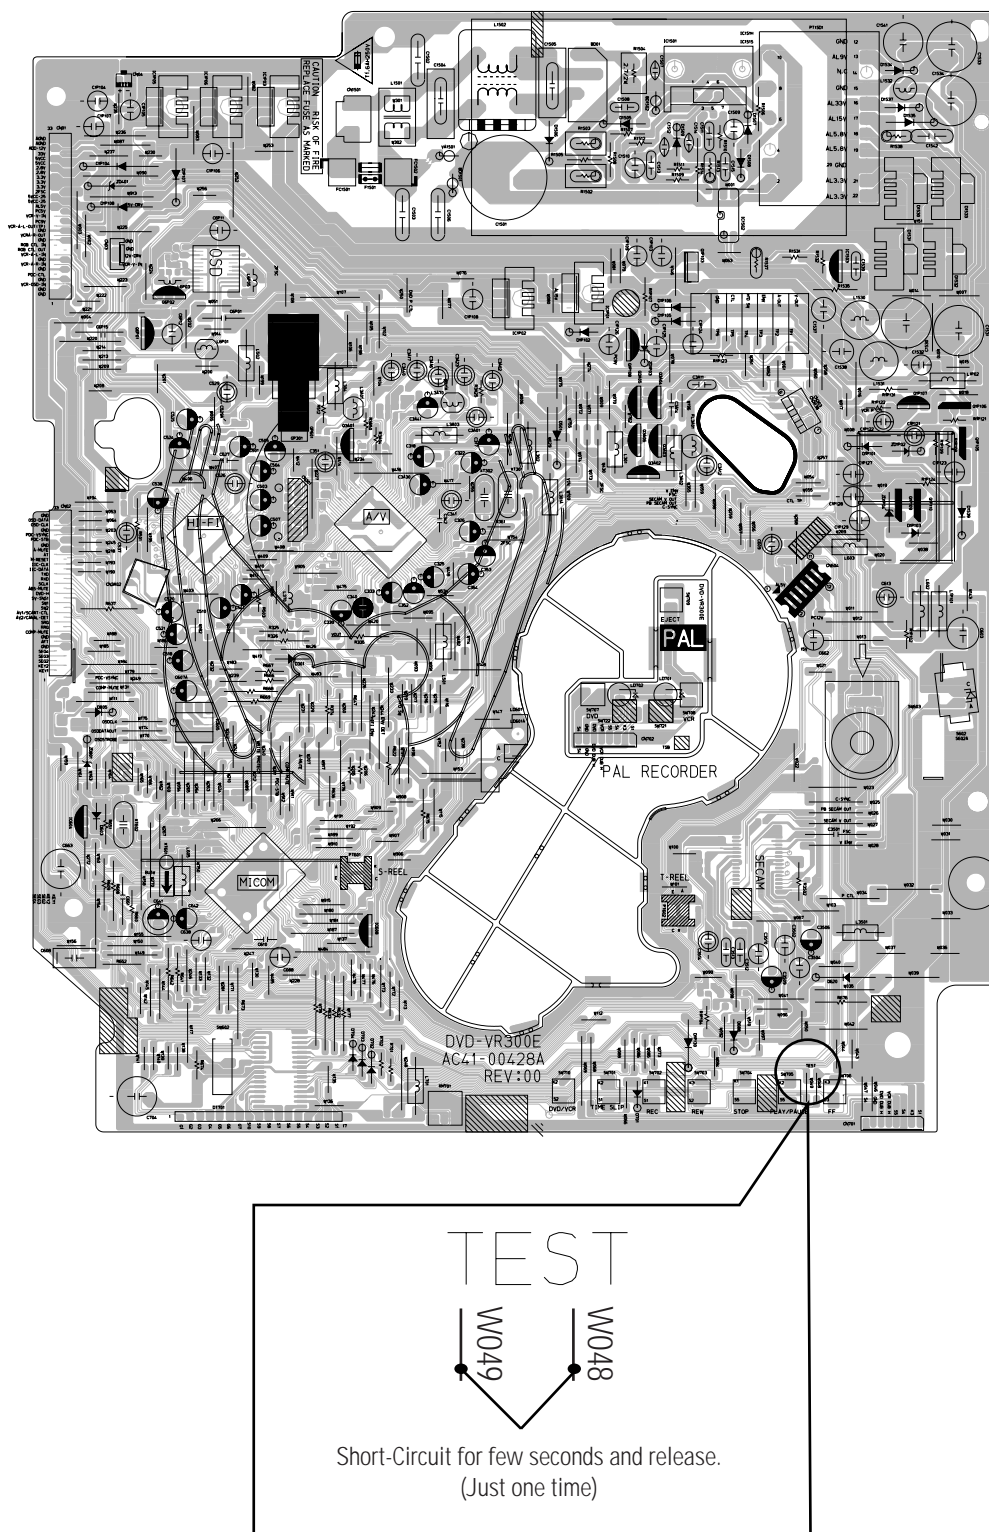

Fig. 6-2 VCR Main PCB (Top View)
- 2) Intermittently short-circuit the two Test Points on VCR Main PCB while setting the adjustment mode. (See Fig. 6-2)
- 1) Intermittently short-circuit the two Test Points on VCR Main PCB. (See Fig. 6-2)
- 2) Intermittently short-circuit the two Test Points on VCR Main PCB. (See Fig. 6-2)